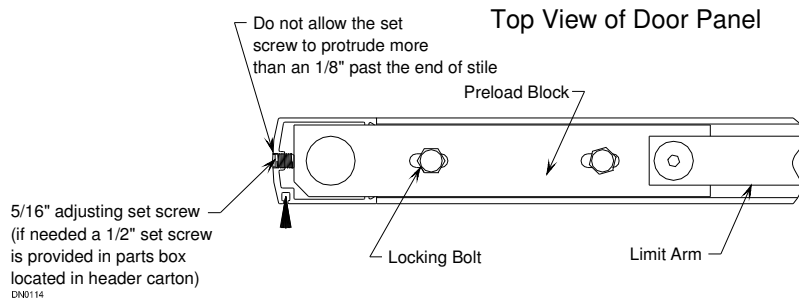

Figure 33
2. Loosen two locking bolts on block inside top rail of door (See Figure 33).